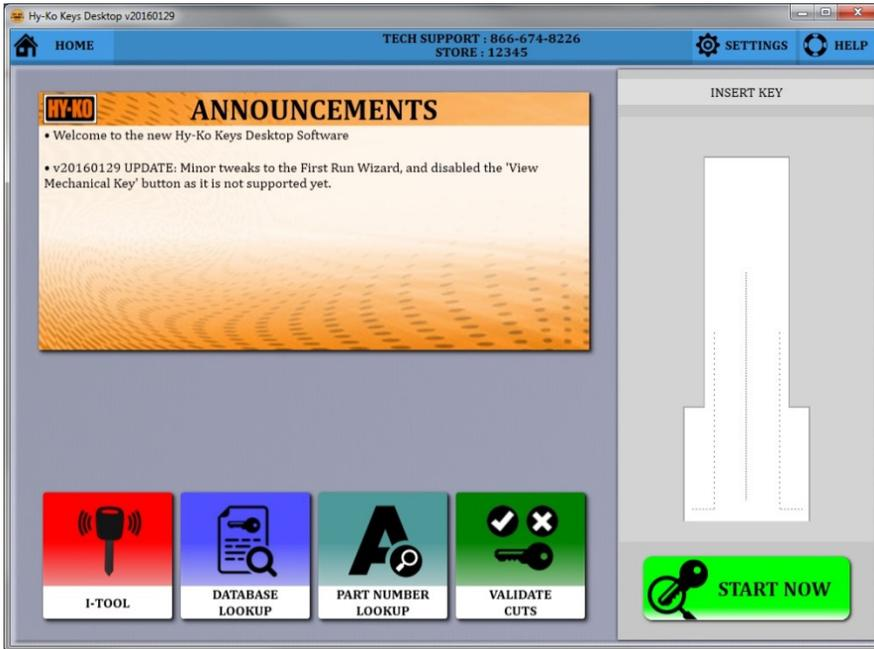

fig. 116
- The **'SETTINGS'** button in the upper, right corner of the main screen will take you to the configuration and setup screens (see fig. 116).